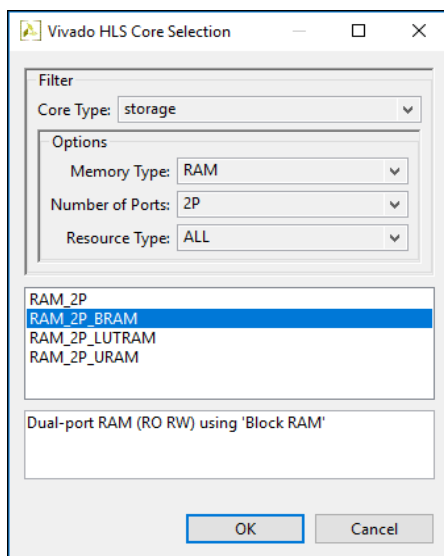

Figure 4-18: Directives Editor for Specifying a Dual-port RAM
- d. Verify that the settings in the Directives Editor dialog box are as shown in Figure 4-18 and click **OK**.